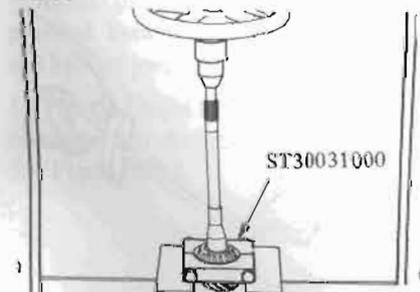

Fig. PD-9 Removing pinion rear bearing inner race
9. Hold rear bearing inner race with Drive Pinion Rear Bearing Inner Race Puller ST30031000 and extract from drive pinion with a press. See Figure PD-9.